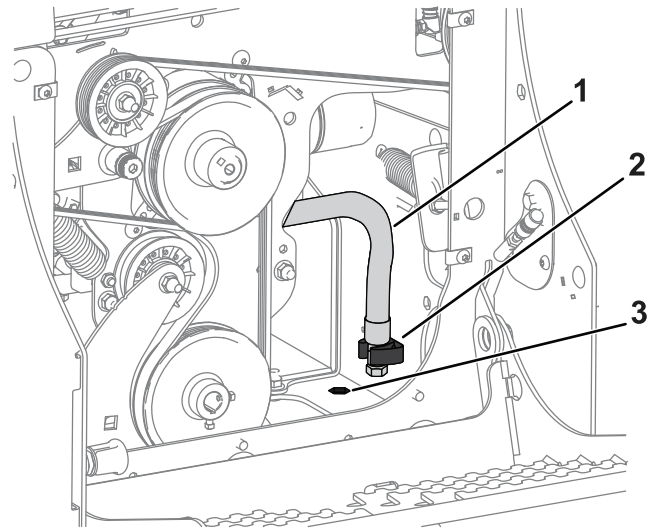

Figure 31
3. Locate the engine oil hose clamped in the storage position (Figure 31).